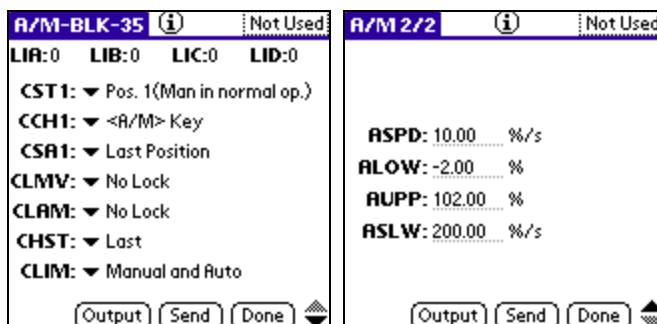

Figure 14
1. *Click* the desired Block (i.e. Blk 35 - Figure 14).
1. *Click* the desired Block (e.a. Blk 35 - Figure 14).